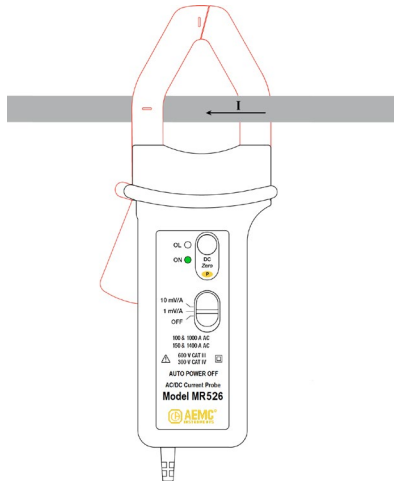

Figure 3 (MR526 shown)
2. Clamp the jaws around the conductor to be measured. Use the centering marks on the jaws to position the clamp around the conductor. If the measurement is for a power calculation, ensure that the arrow on the clamp jaws (see Figure 3) points in the direction of the current flow: